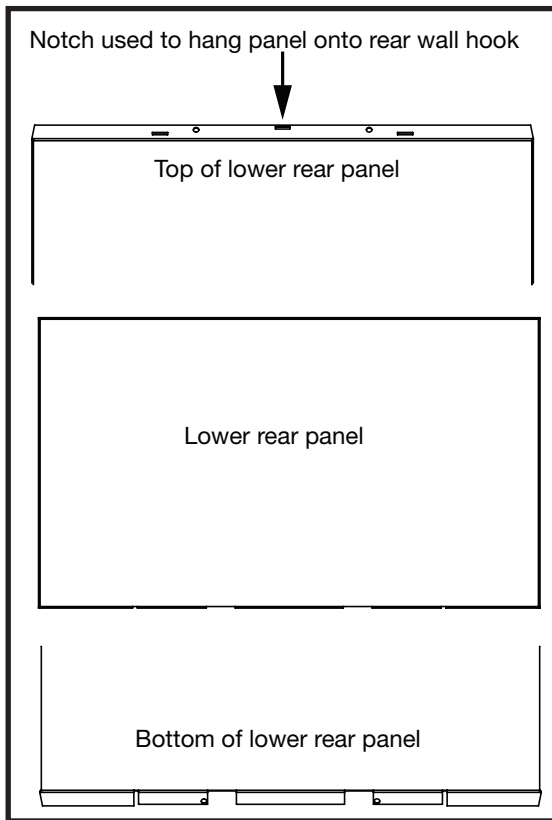

Figure 47: Lower rear panel.
2. Place the lower rear panel against the rear wall and on top of the two supports just behind the burners (Figure 52). Orient this panel so that the center notch is in the up position (Figure 47). This notch will hook onto a tab protruding from the rear wall (Figure 51).